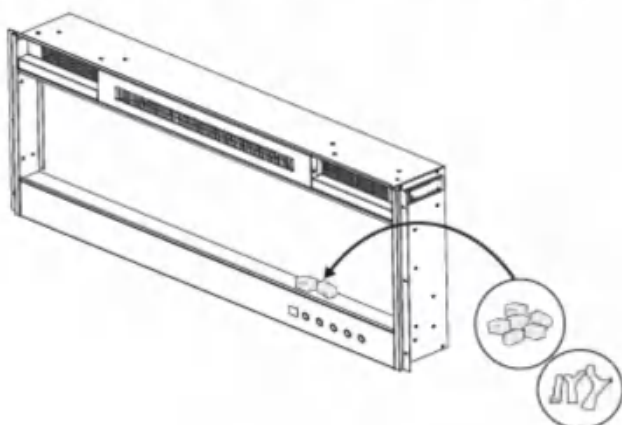

Figure 6
- I. Install the decorative crystals and logs by placing them on the tray inside the fireplace. [Figure 6]